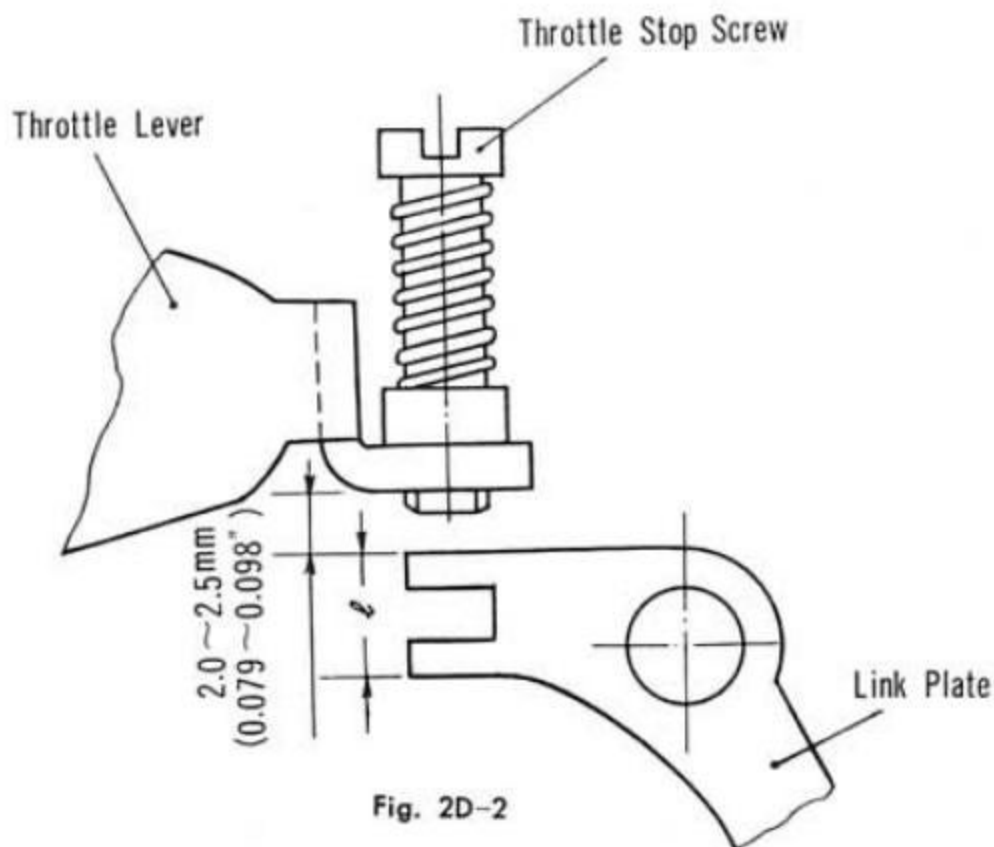

Fig. 2D-2
c. In this condition, adjust the clearance between the throttle lever and the link plate to 2.0~2.5 mm (0.079~0.098") by deforming width "l" in Fig. 2D-2, the point of the link plate.
17. Accelerator Pump Adjustment (Fig. 2D-3)